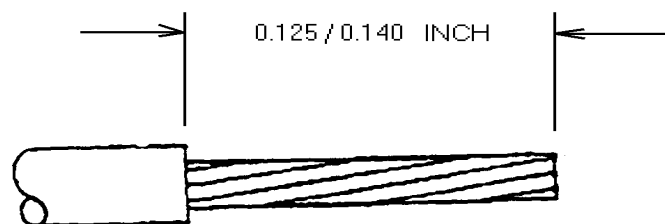

Figure 5-7. Primary Wire Strip Length.
9. Strip primary wires (Figure 5-7).